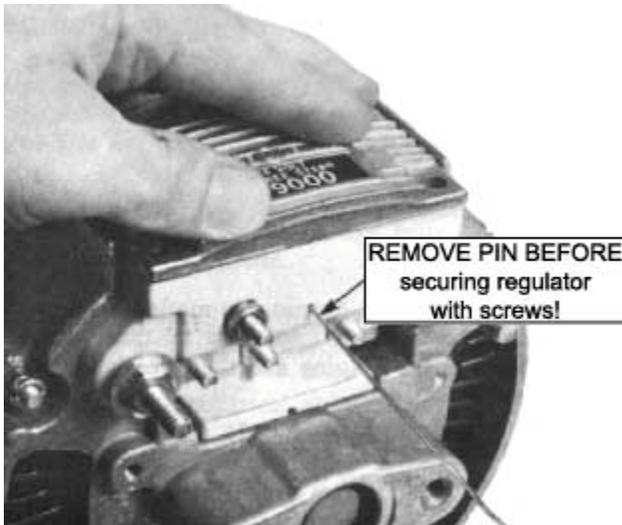

Figure 27
18.8 Place regulator in holder. Apply a small amount of downward pressure on the regulator and REMOVE PIN from access hole to release brush springs. Hold down regulator and secure it with four #8-32 x 7/16" long screws (Figure 27).